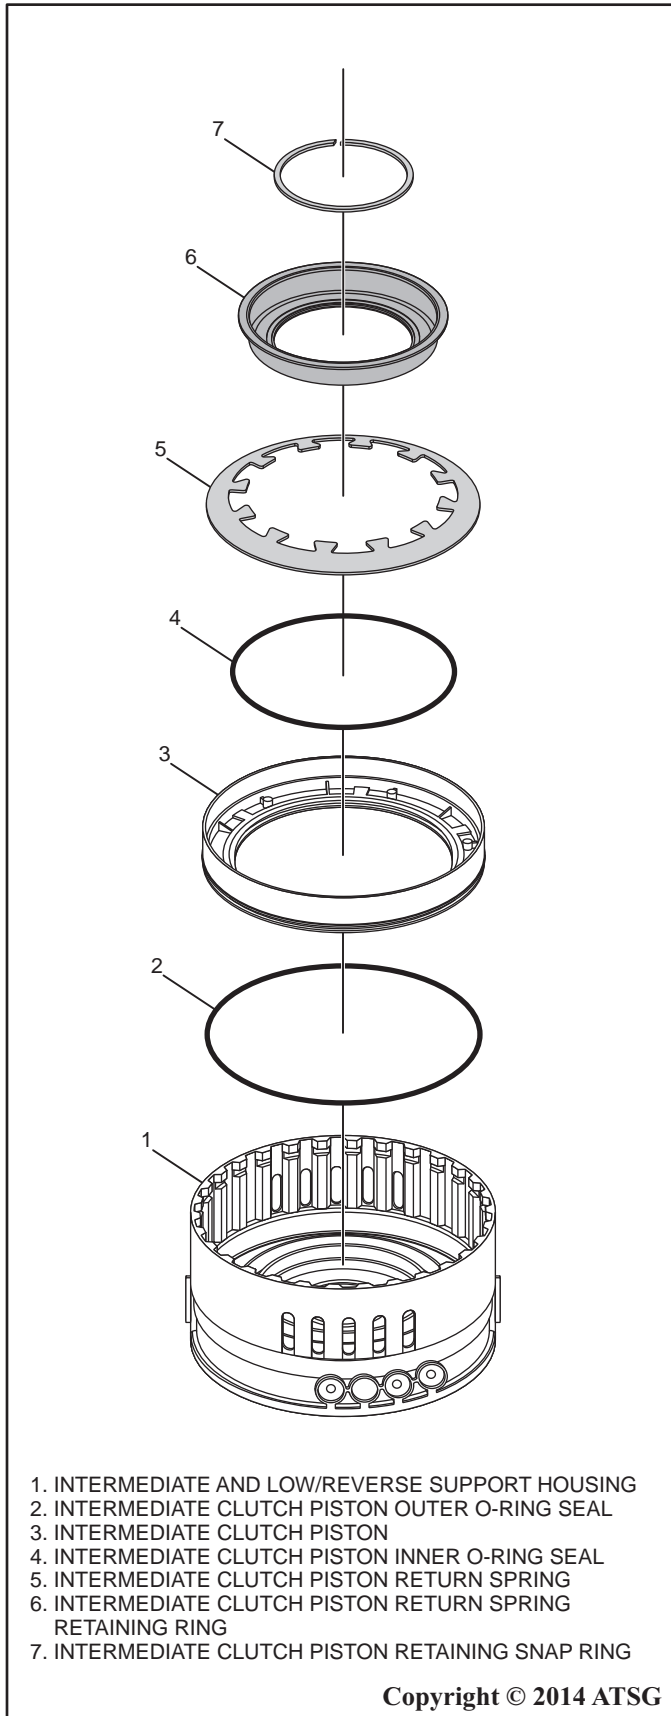

Figure 105
5. Install the intermediate clutch piston into the intermediate and low/reverse clutch support as shown in Figure 105.
6. Install the intermediate clutch piston return spring into the piston as shown in Figure 105.
7. Install the intermediate clutch piston return spring retaining ring as shown in Figure 105.